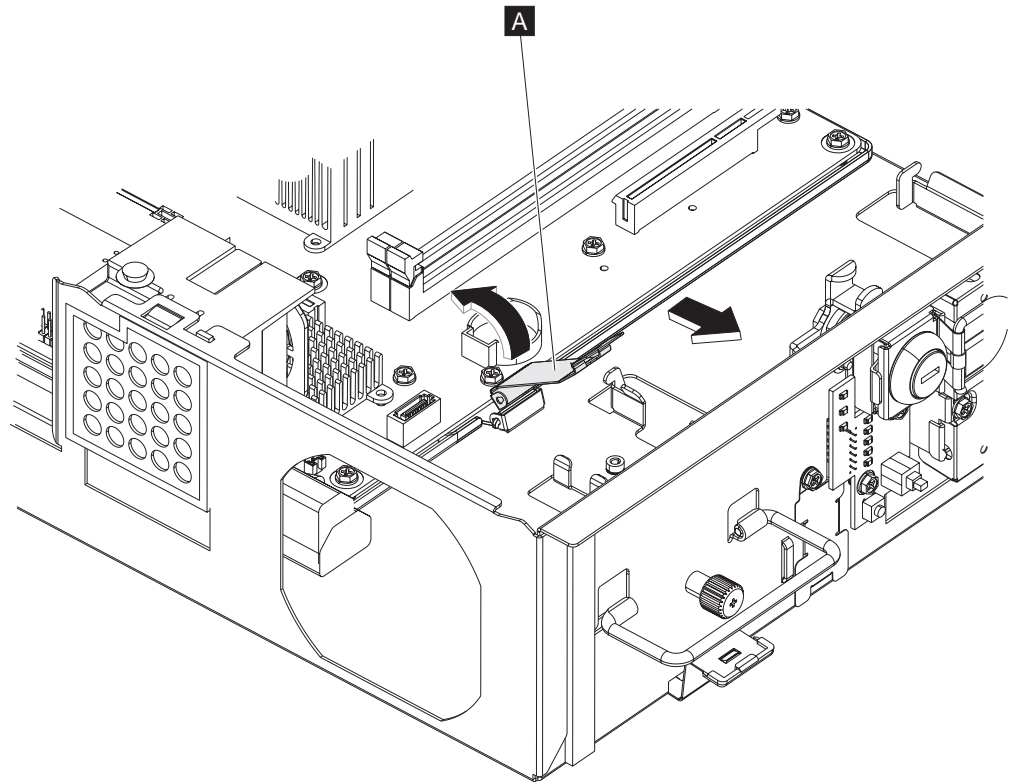

Figure 35. Removing the system board tray
8. Lift the system board tray lever ( **A** in Figure 35 on page 47) and pull towards the front of the tray. The system board tray will slide off of its hooks on the bottom of the pullout tray, which lets you remove the system board tray and system board completely from the pullout tray.